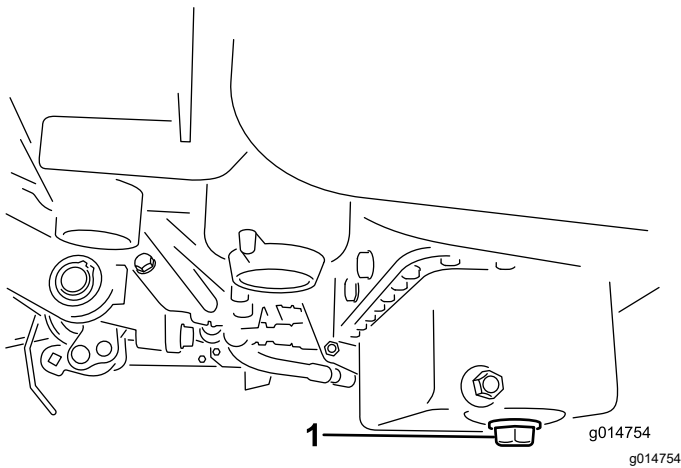

Figure 35
1. Remove the drain plug and let oil flow into a drain pan. When the oil stops, install the drain plug (Figure 35).